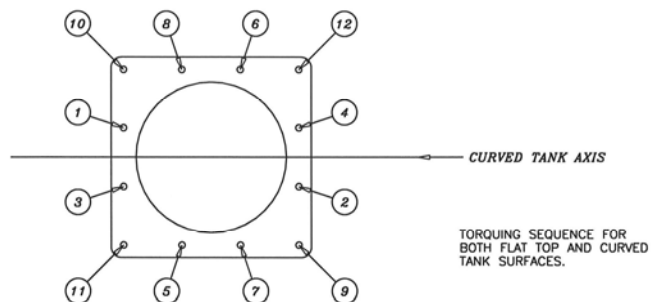

Fig. 6
- 17. Tighten all of the plate bolts to 40—60 in. lbs. (4.5—6.8 nm) of torque, or until all the bolts are snug to the top of the plate surface. Then tighten all the bolts to 78—95 in. lbs. (8.8—10.2 nm). Then recheck the bolts in the sequence indicated in Fig. 6 for 78—95 in. lbs. (8.8—10.2 nm).